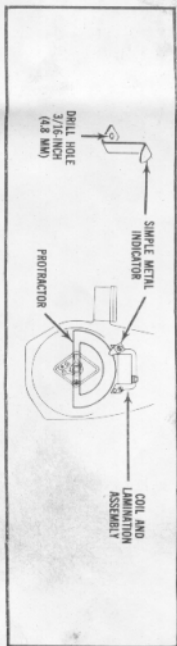

FIGURE 13
- Make a simple indicator for the degree wheel from the lid of a tin or coffee can (Figure 13). Mount the indicator on one coil lamination leg (either side is all right) in the same way as shown in Figure 13.